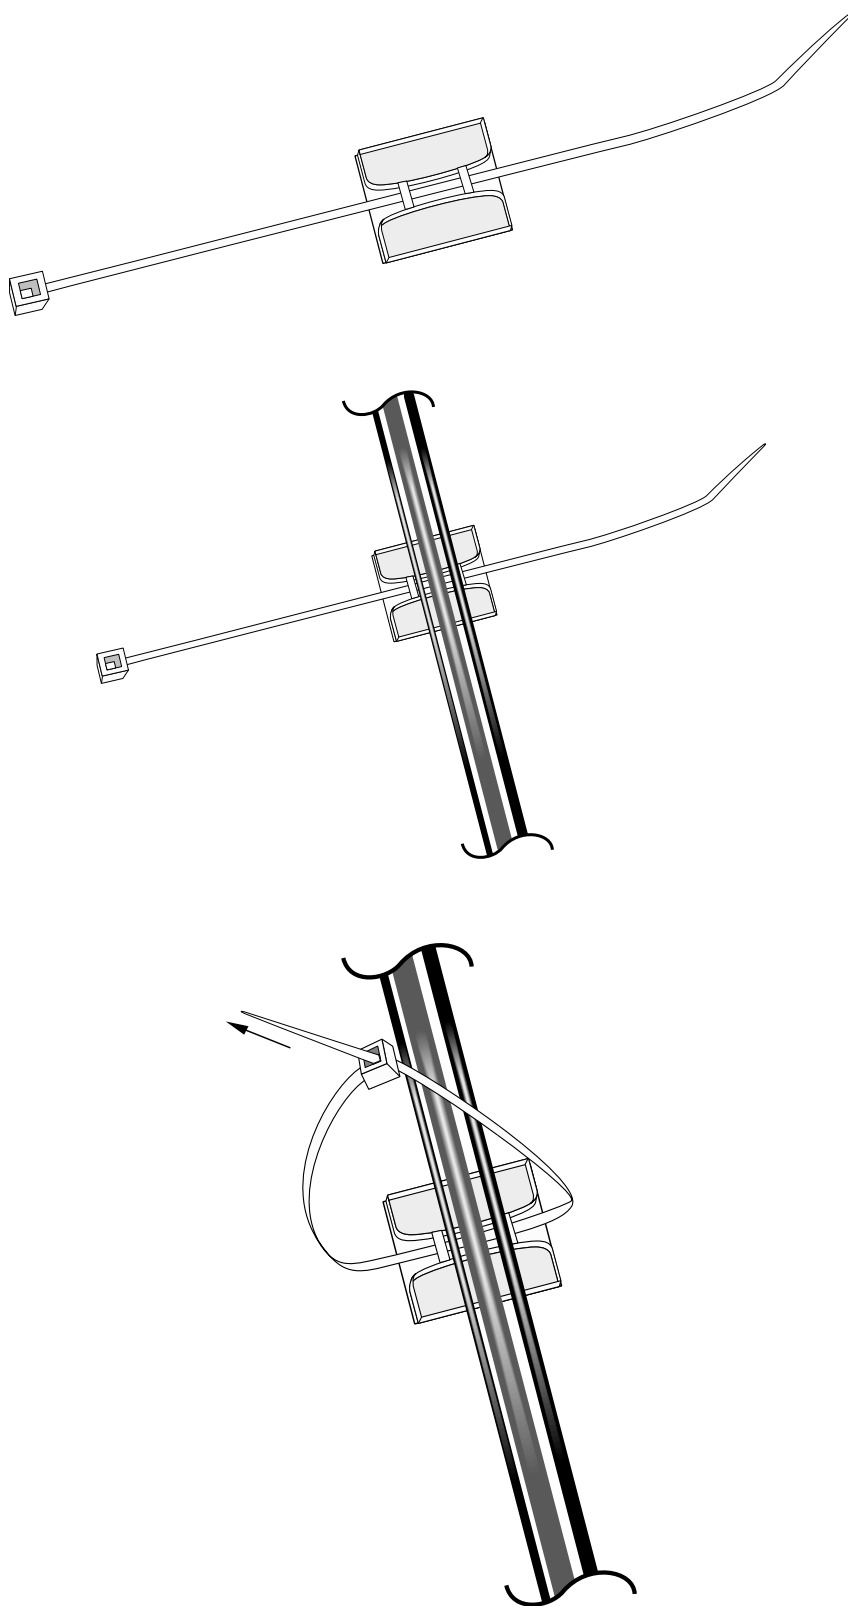

FIGURE 3-2. Securing Cables to the Cable Tie Tabs
6. Secure sensor and peripheral leads to the side of the enclosure using 8" cable ties and cable tie tabs (see Figure 3-2).
5. Secure sensor and peripheral leads to the side of the enclosure using 8" cable ties and cable tie tabs (see Figure 3-2).